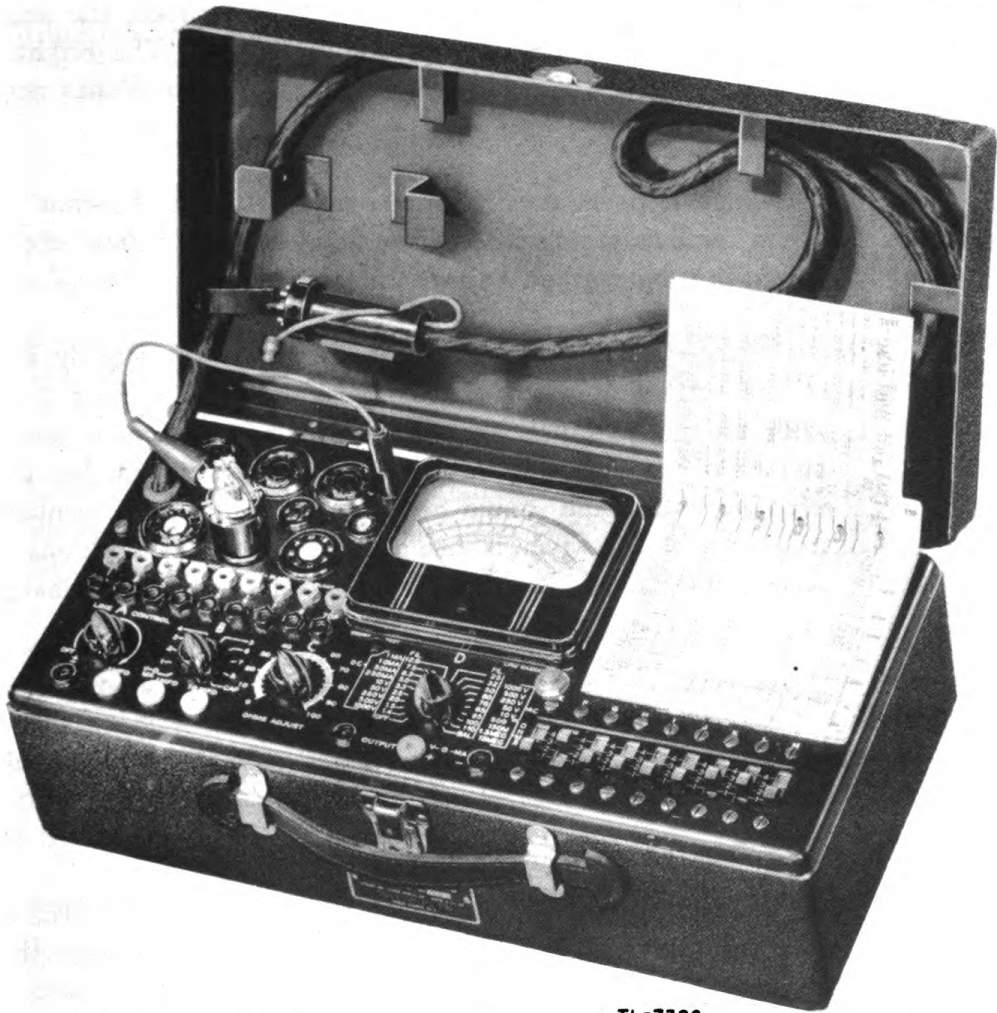

FIG. 8. COMBINATION TESTER, TESTING AN ACORN TUBE
- i. When testing acorn tubes, plug the BN adapter into the octal socket. Then place the acorn tube in the adapter and attach the top-cap clip of the tube-test lead to the clip on the side of the adapter. If the tube has a top lead, push the adapter top-lead connector over it. The adapter top-lead connector is attached to a lead coming out of the adapter (fig. 8).